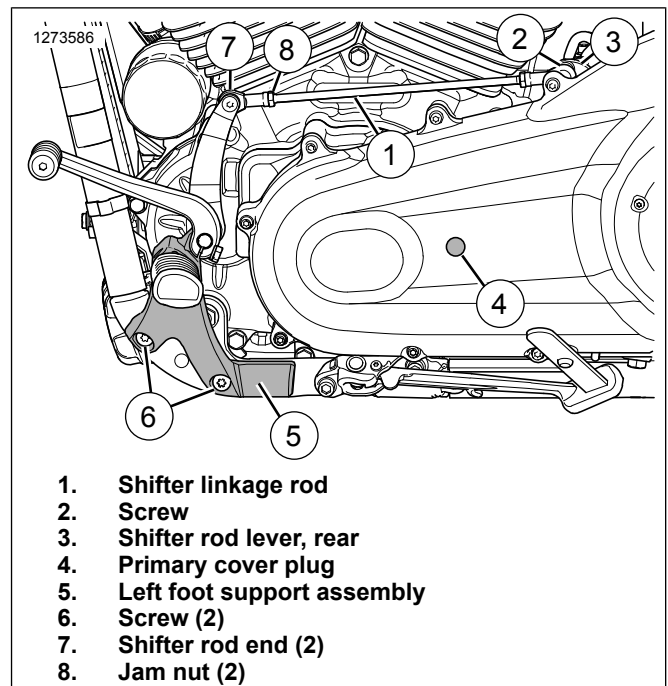

Figure 6. Left side forward controls
- b. See Figure 6. Apply threadlocker to screws (6).